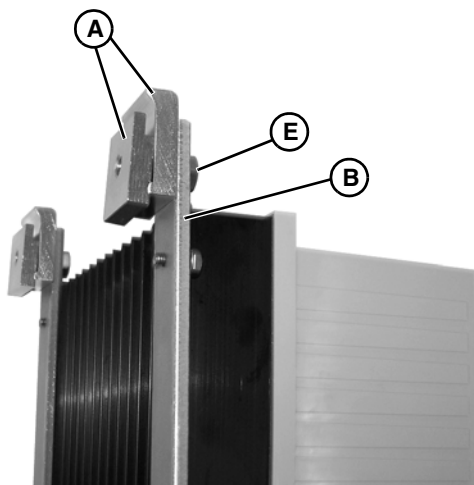

Figure 4
- Loosely attach clips (Figure 4, item A) to mounting bar (Figure 4, item B) with M6 x 16 mm screws (Figure 4, item E).
2. Loosely attach clips (**Figure 4, item A**) to mounting bar (**Figure 4, item B**) with M6 x 16 mm screws (**Figure 4, item E**).